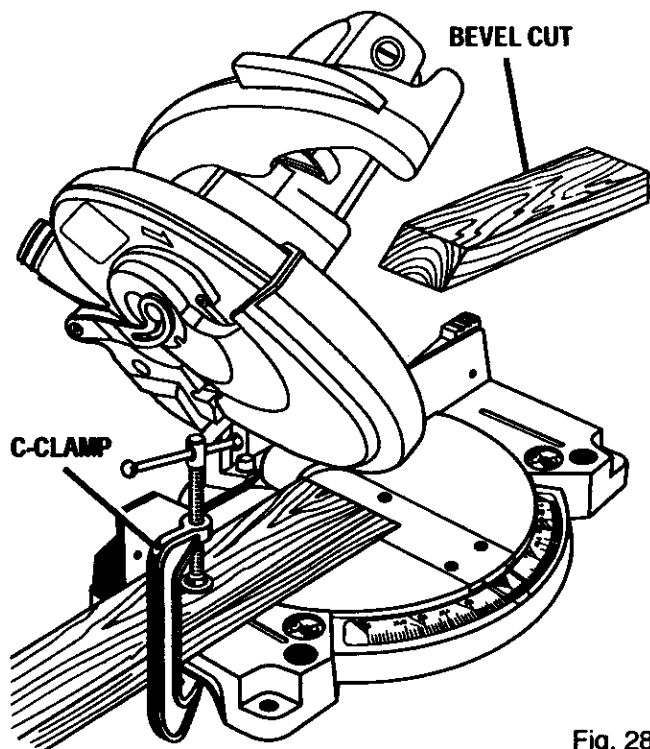

Fig. 28
- Grasp the stock firmly with one hand and secure it against the fence. Use a C-clamp to secure the workpiece when possible. *See Figure 28.*
- Slowly lower the blade into and through the workpiece. *See Figure 28.*